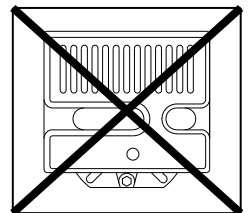

Fig. 8
- The burner is designed to operate only in positions **1, 2, 3** and **4** (Fig. 8).